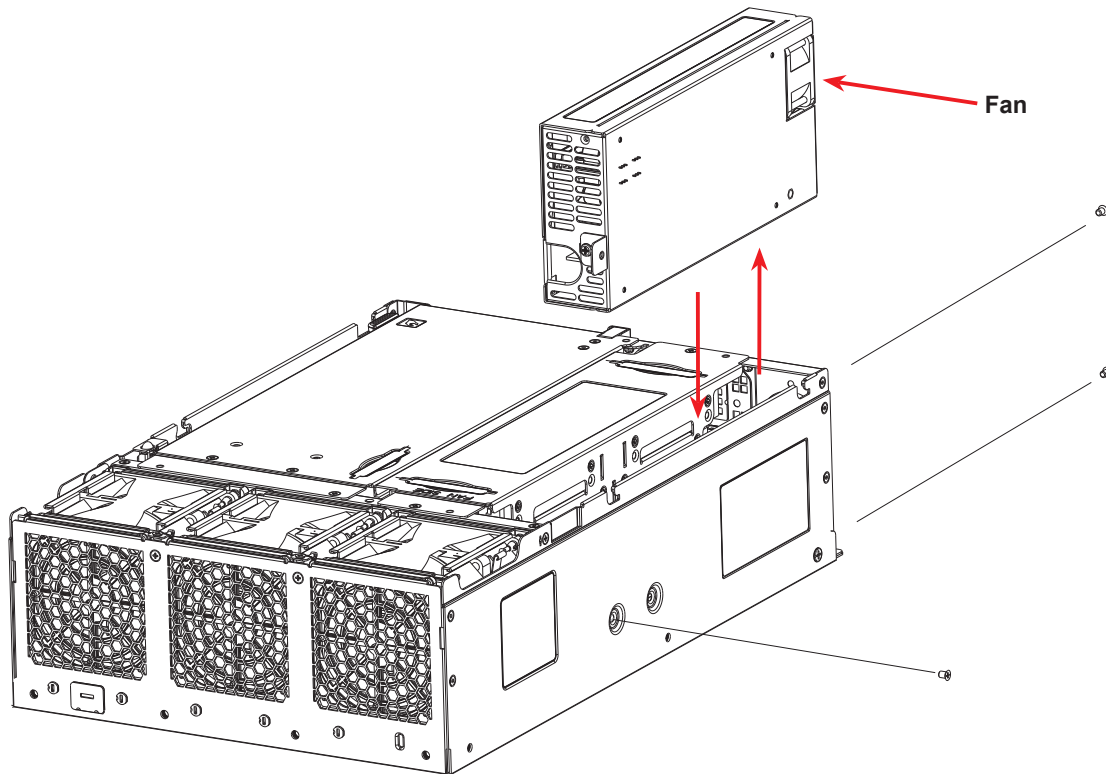

Figure 2-19. Removing the Power Supply
6. Remove three screws on the chassis as shown in Figure 2-19 and set them aside.